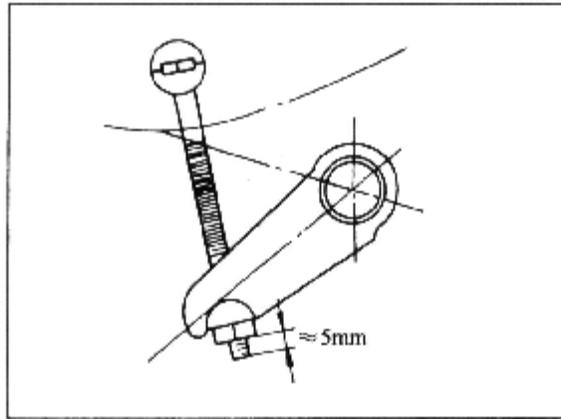

Figure 10-7-5 Installation of Torsion Bar Spring (1)
③ Mount and secure a new torsion bar spring onto the torsion arm, and adjust the nut seat and adjusting nut. **Note:** When to install the fixed arm onto the torsion bar spring, tighten the adjusting nut by hand to make the extended length of bolt being about 5mm, as shown in figure 10-7-5. Tighten the adjusting nut to screw down the bolt by 60.5mm(C). The measured value of which will be a reference during vehicle height adjusting.